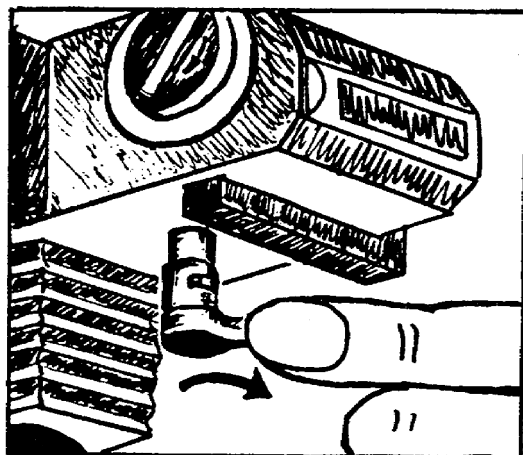

Figure 1-25. Locking Sync Cord.
c. Next, push the cord connector completely onto the camera post. When it is all the way on, turn the cable connector clockwise. It is now locked in place (fig 1-25).